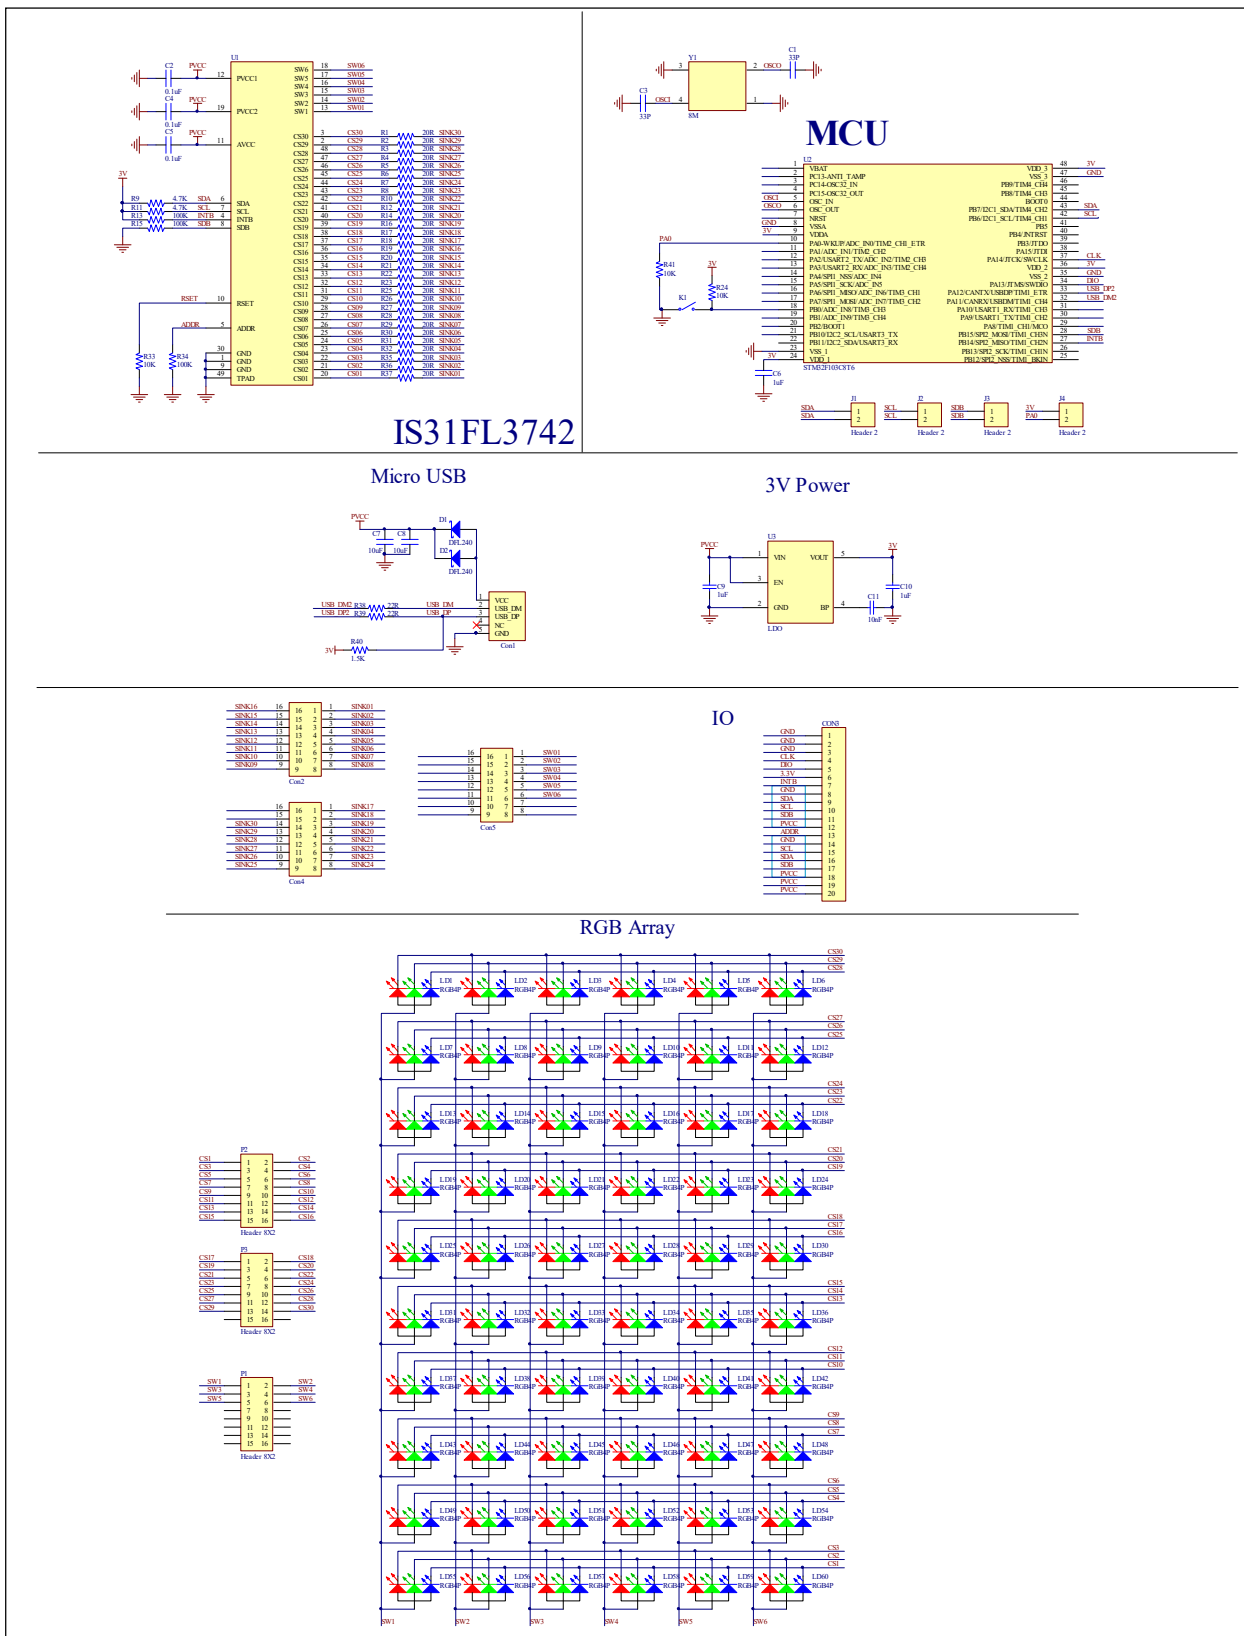

Figure 3: IS31FL3742 Application Schematic
*Bill of Materials, refer to Figure 3 above.*